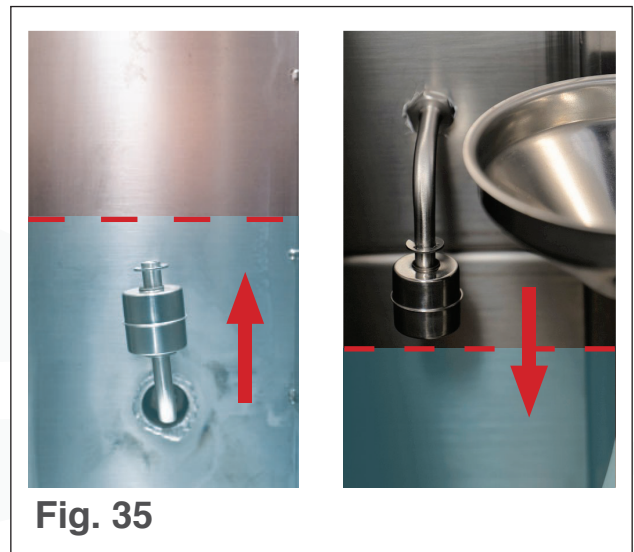

Fig. 35
- Run water through the **INLET VALVE** until the main tank is full and liquid has overflowed into the storage tank to a level between the low and high liquid-level sensors (see Fig. 35).
- Open the **STORAGE TANK VALVE** and drain the storage tank until the liquid level is between the low and high liquid-level sensors (see Fig. 35).